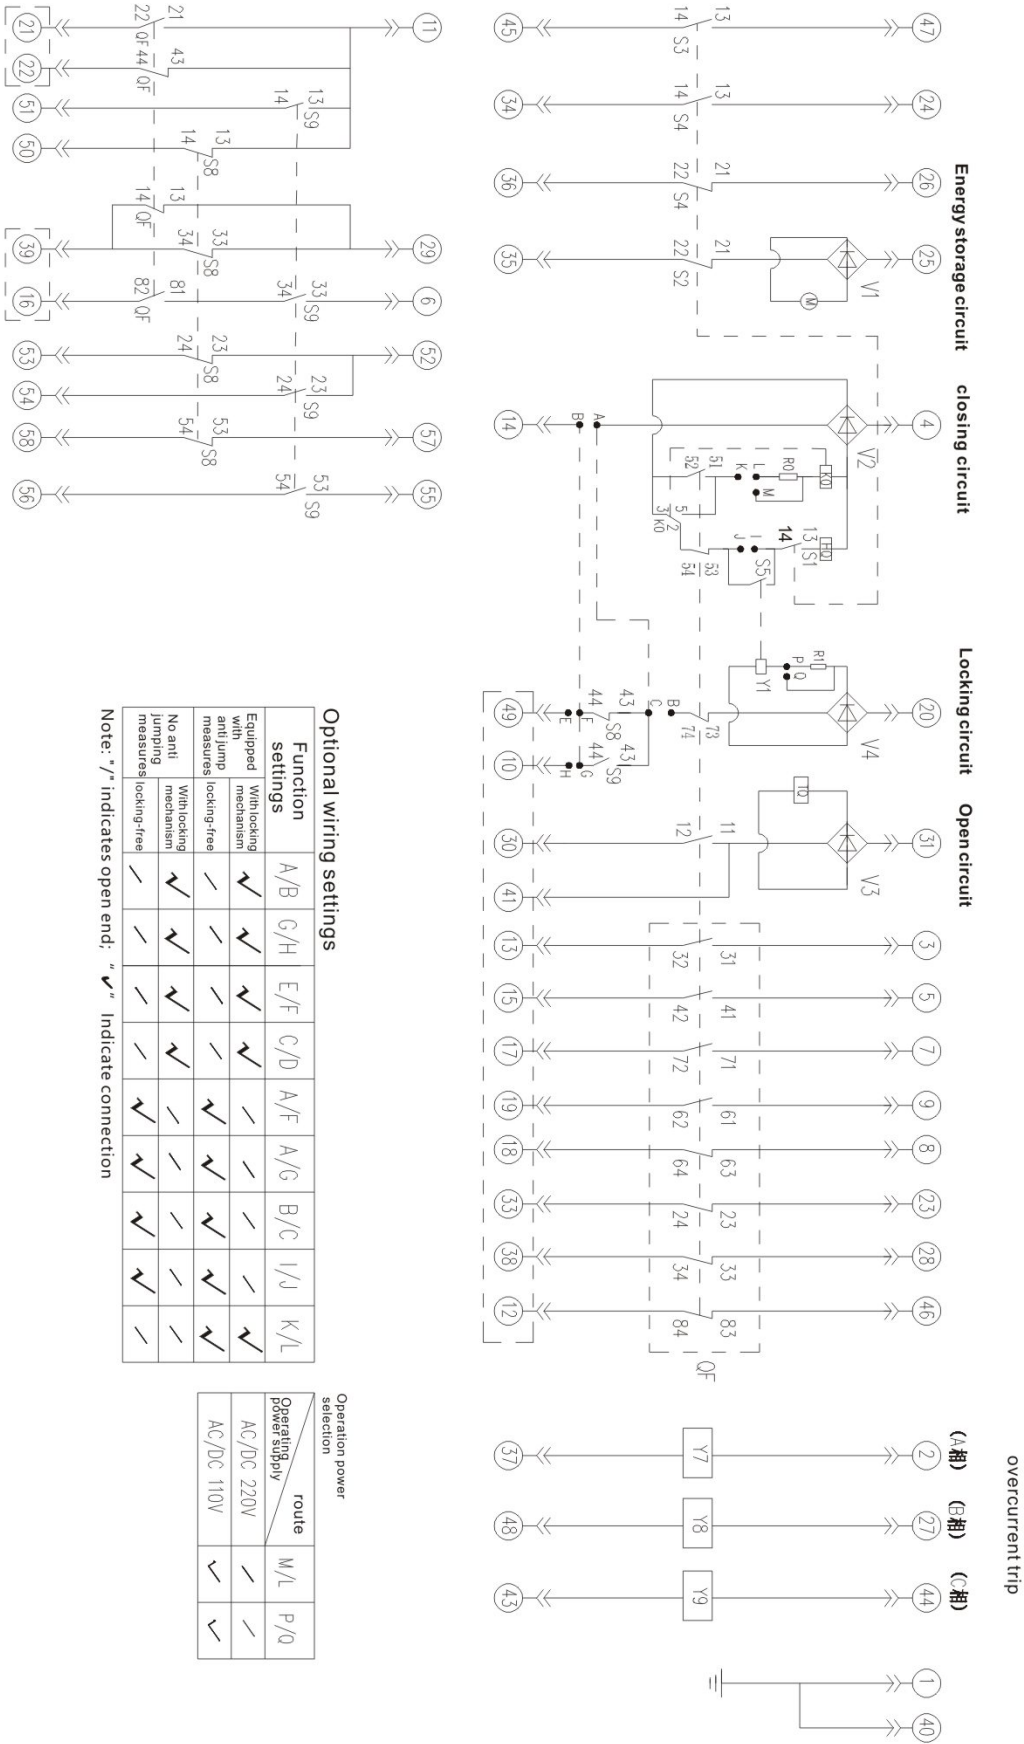

Figure 9-2 Internal Electrical Schematic Diagram of ZN63A (VS1) -12 Handcart
7.2 The internal electrical schematic diagram is shown in Figure 9-2 (see Appendix A2).